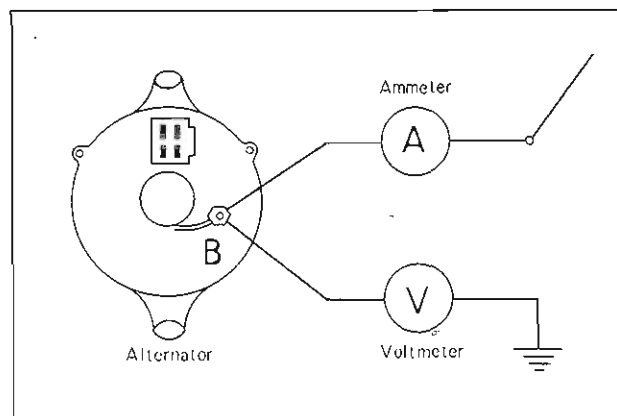

Fig. 5-9 Checking of alternator
1. Disconnect the wire from "B" terminal of the alternator and connect the ammeter with the negative lead of the ammeter to the wire and the positive lead to the "B" terminal, as shown in Fig. 5-9.